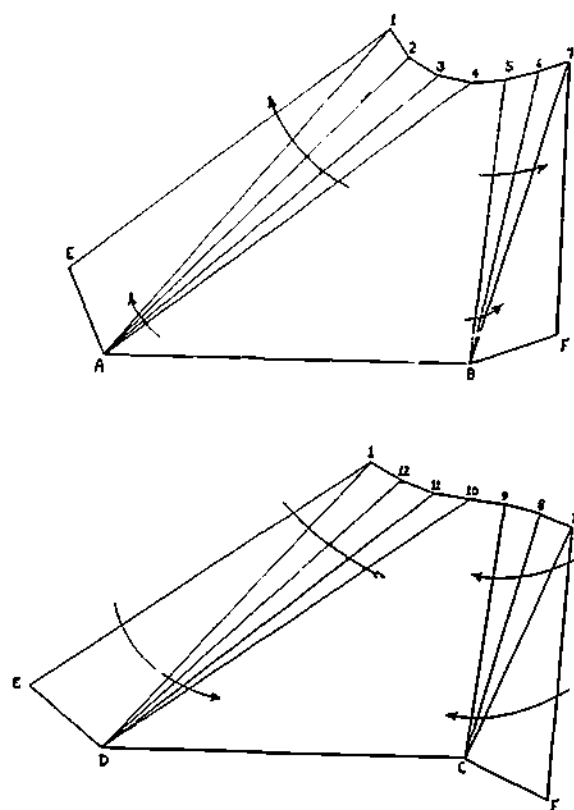

Figure 5-47. Rectangle to Round, Offset Both Ways
Step 1. Draw the elevation and plan views as shown in Figure 5-47.